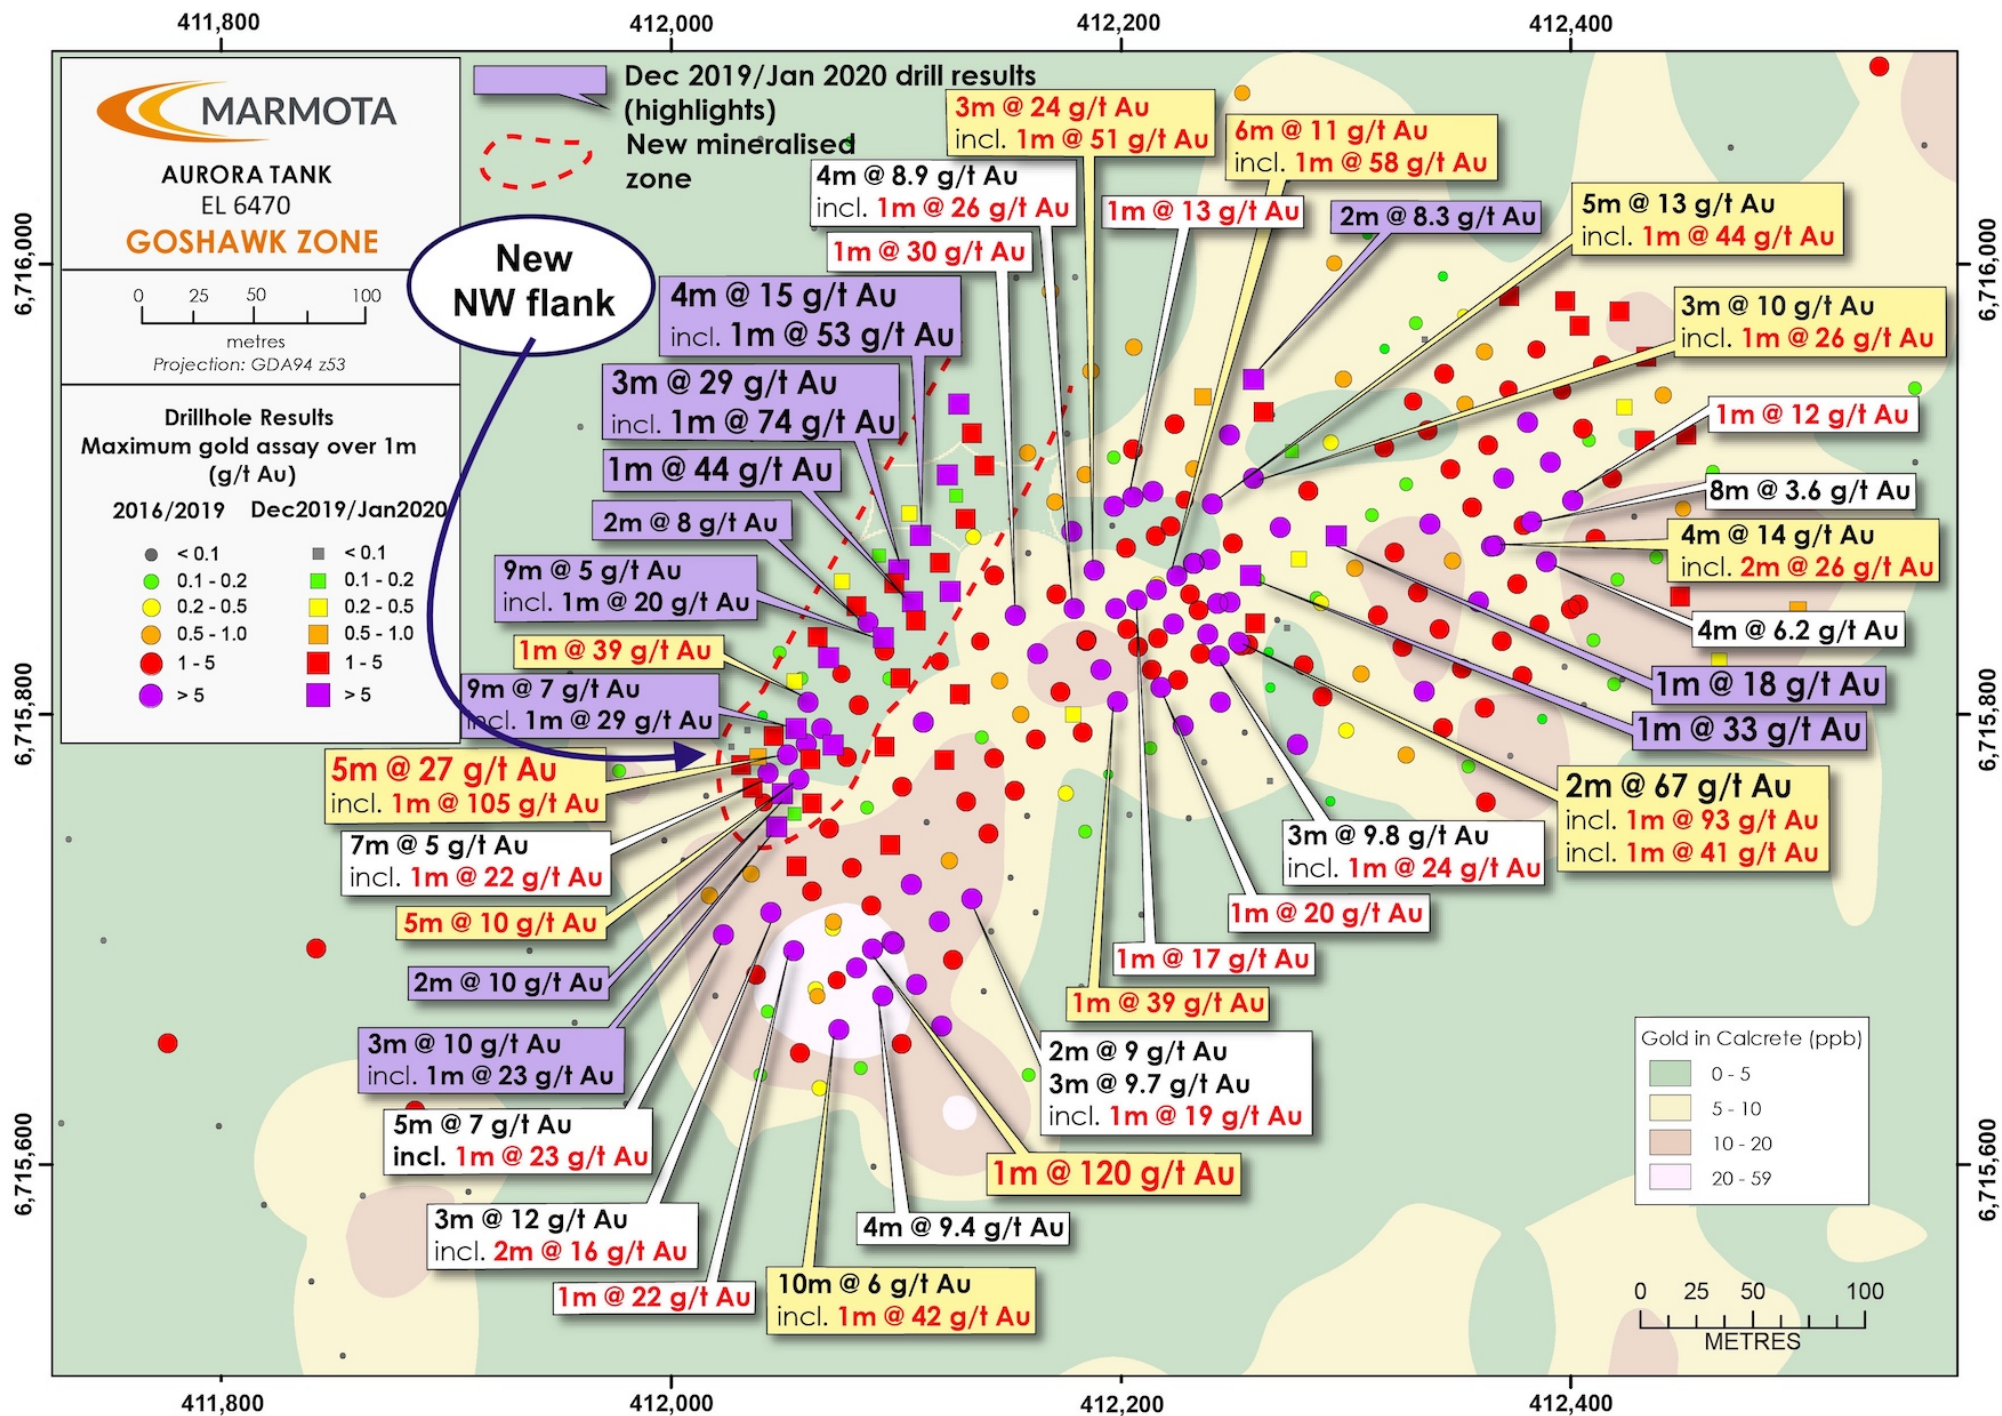

Figure 1: Aurora Tank – Location of new NW flank and New High Grade Intersections (Best downhole gold results)
The new NW flank has reported multiple high-grade assays see [Figures 1 and 2]. The NW flank is a new zone discovered in Marmota's previous 2019 drilling program while following up elevated gold in biogeochemical sampling (tree sampling) see ASX:MEU [31 July 2019 and 19 Sept 2019].
- **Open:** The NW flank is open along strike to the NE. See [Figures 1 and 2]